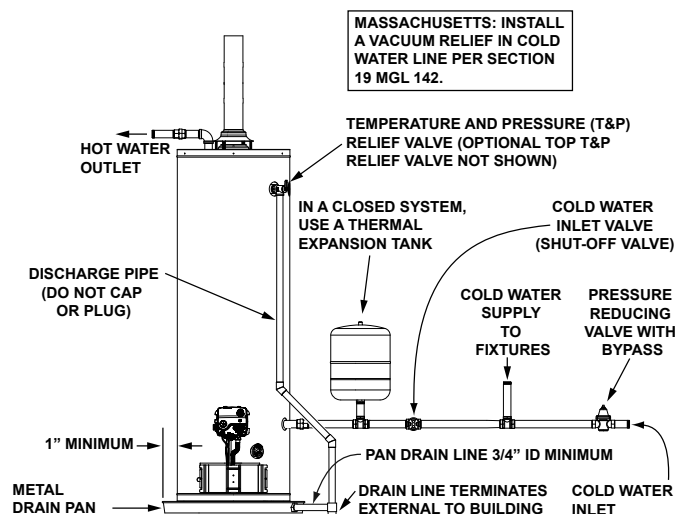

FIGURE 17.
Piping, fittings, and valves should be installed according to the installation drawing (Figure 17). If the indoor installation area is subject to freezing temperatures, the water piping must be protected by insulation.
1. Install the water piping and fittings as shown in Figure 17. Connect the cold water supply (3/4" NPT) to the cold water inlet fitting. Connect the hot water supply (3/4" NPT) to the hot water outlet fitting.